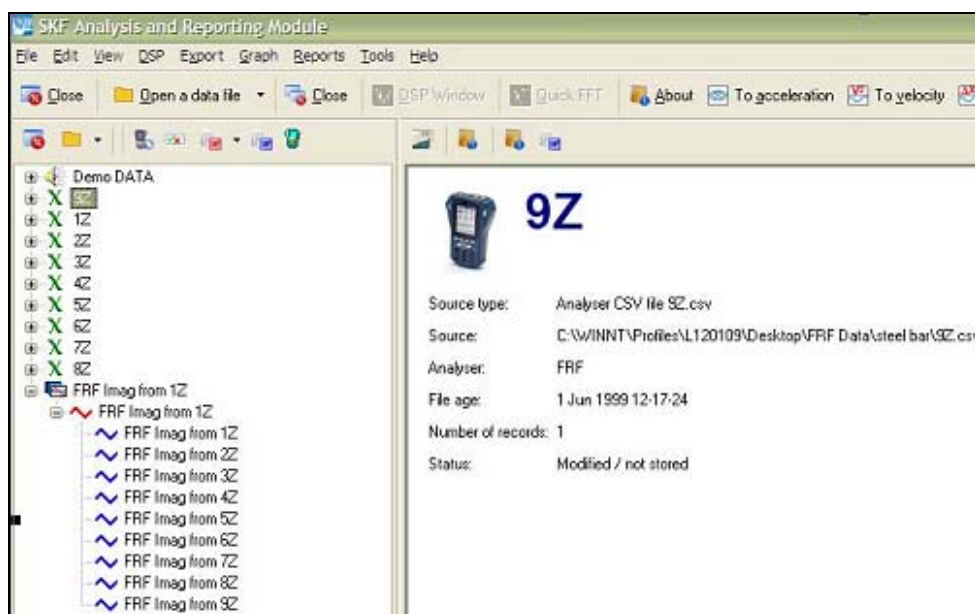

Figure 5. Creating a group of spectra
5. Copy all of the other FRF Imag spectra from the individual files into the FRF Image from 1“X” to create a group of spectra. [Figure 5]